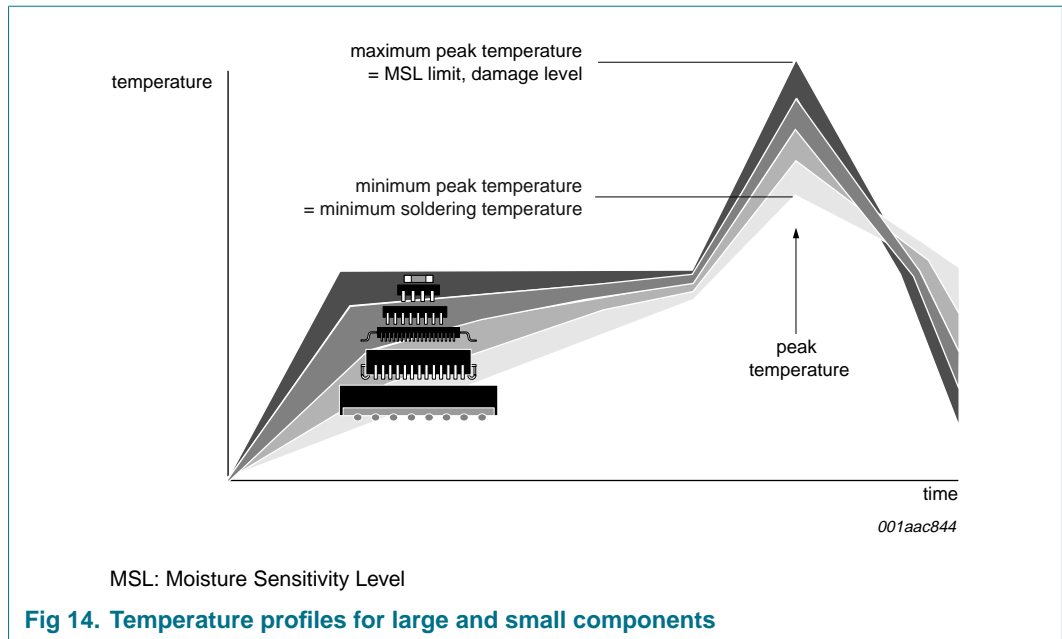

Fig 14. Temperature profiles for large and small components
- Lead-free versus SnPb soldering; note that a lead-free reflow process usually leads to higher minimum peak temperatures (see Figure 14) than a PbSn process, thus reducing the process window
Studies have shown that small packages reach higher temperatures during reflow soldering, see Figure 14.